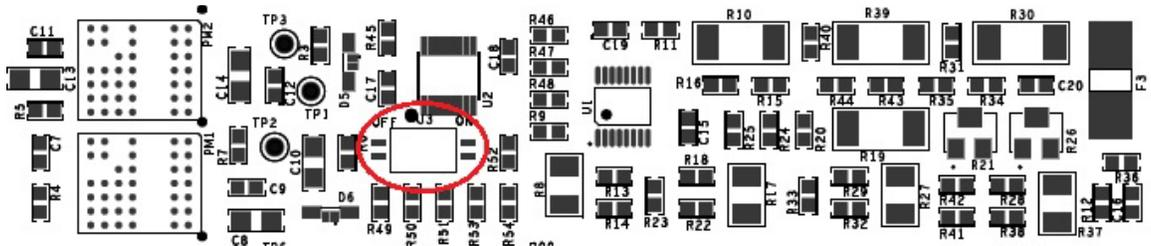

Figure 4
Figure 4 locates a pair of DIP switches present in each of the four channels. The upper switch in the figure is Sw1. These are used to select initial and default conditions of the hardware, when the FPGA board is not controlling the channel. Dip switch 1 selects the upstream voltage range that drives the current limit resistors, 12V (ON) or 5V (OFF). Dip switch 2 selects whether the current limit selection is Active (ON) or Inactive (OFF) by default.